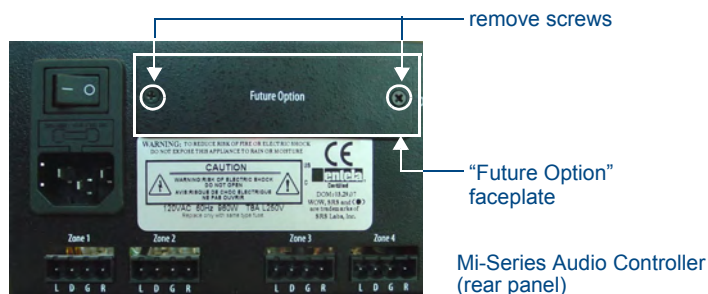

FIG. 2 Rear Panel with "Future Option" cover plate
2. With the back of the unit facing you, remove the screws from the "Future Option" cover plate at the left top corner of the rear panel (FIG. 2) and remove the plate. Retain the screws, as they will be used to install the DAS-MNET card.